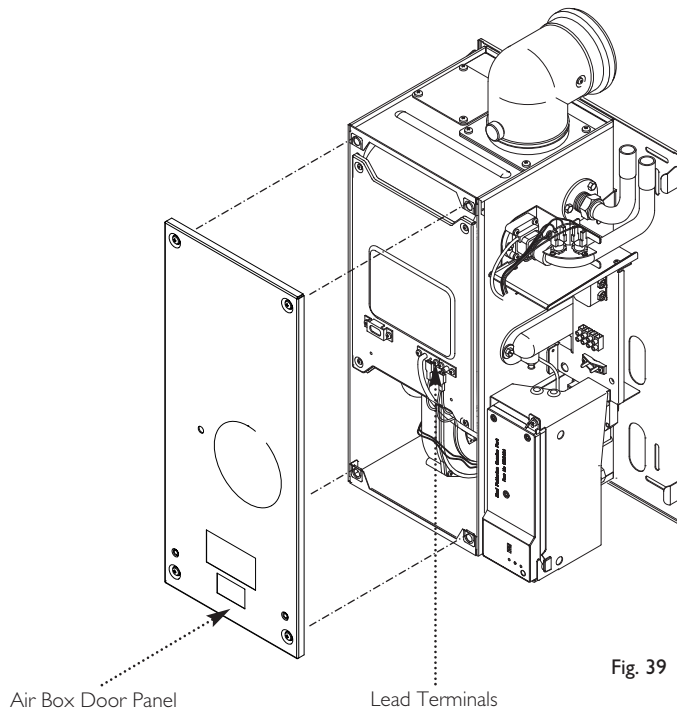

Fig. 39
6. Release the four 1/4 turn screws securing the air box door panel and remove the door (Fig. 39).